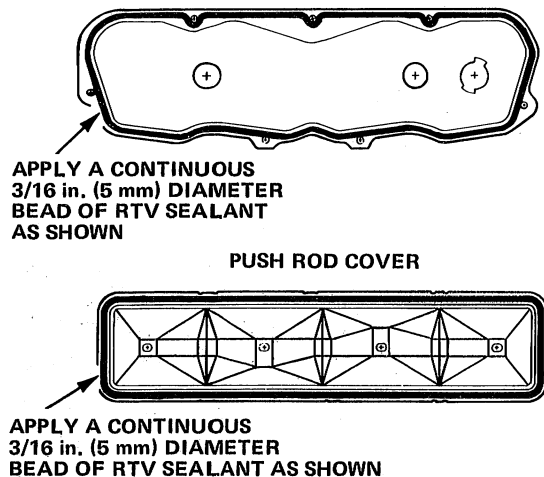

Fig. 1B-25 Cylinder Head Cover and Push Rod Cover RTV Sealant Application
- (1) Thoroughly clean sealing surfaces on cylinder head cover and cylinder head.
- (2) Apply continuous 3/16-inch (5 mm) diameter bead of RTV sealant on cylinder head cover as illustrated in figure 1B-25.
- (3) Position cover on head, install retaining bolts and tighten with 7 foot-pounds (10 N•m) torque.
- (4) Install spark plug wires, PCV valve (or hose) and air cleaner.
- (1) Thoroughly clean sealing surfaces on push rod cover and cylinder block.
- (2) Apply continuous 3/16-inch (5 mm) bead of RTV sealant on push rod cover as illustrated in figure 1B-25.
- (3) Install cover and cover-to-block bolts. Tighten bolts with 75 inch-pounds (9 N•m) torque.
- (4) Install intake manifold. Refer to Intake Manifold for replacement procedure.